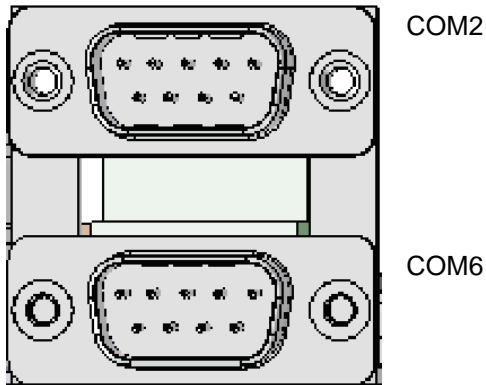

Figure 3-45: Dual DB-9
- CN Location:** See **Figure 3-45**